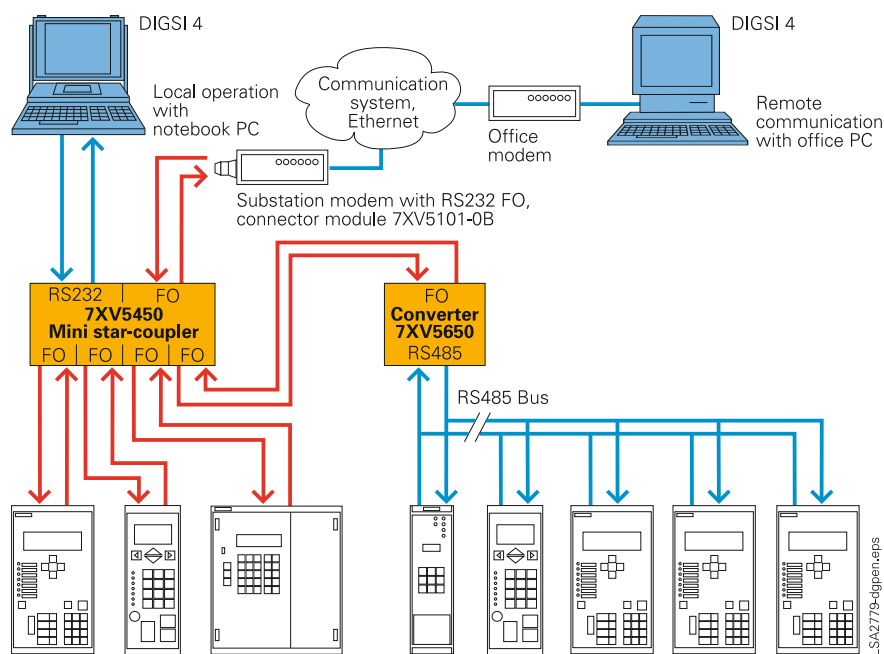

Fig. 4/5 Mixed system, FO/RS485 with units from different families (Example 3)
- Relays that are not available with communication functions according to IEC 60870-5-103 protocol (e.g. 7VE51, 7VK51, 7SV51 and older firmware versions of some relays) can also be connected via the active star-coupler as illustrated in Fig. 4/6. In this case one output must be assigned to each relay. The baud rate must be set according to the unit.